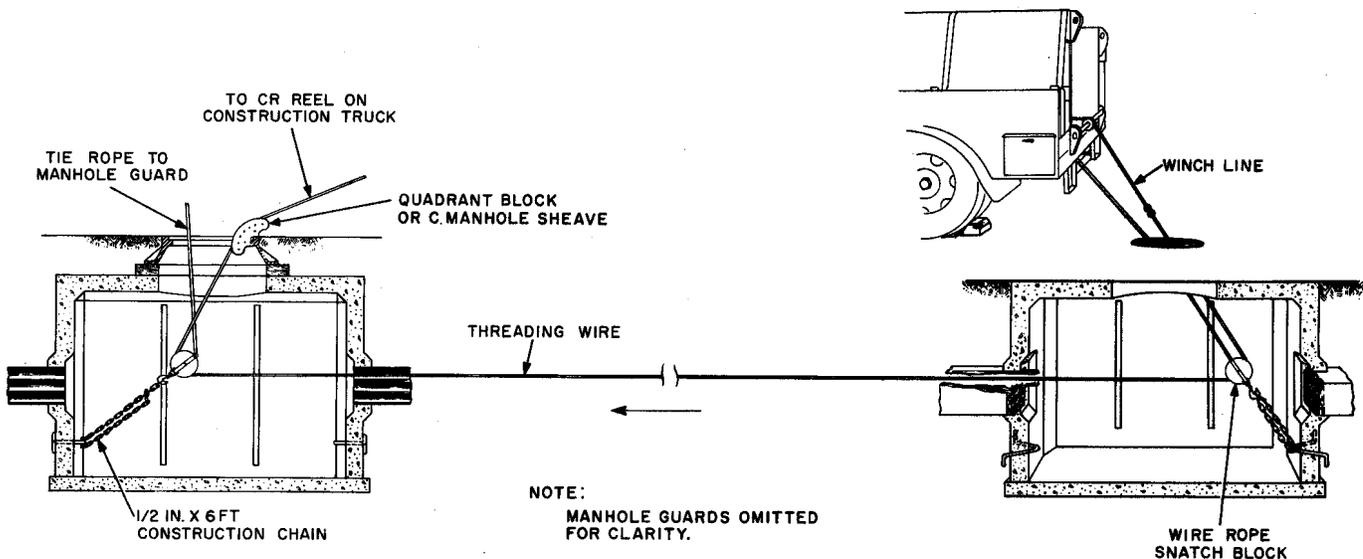

Fig. 5—Placing Winchline in Duct
5.03 If the duct has been threaded with wire, attached the threading wire to the pulling line of a winch truck located at one end of the section. At the other end of the section, attach the threading wire to a CR reel mounted on a second truck. Pull the first few feet slowly to determine if any obstructions are in the conduit. After this, make a normal steady pull until the winch line has completely replaced the threading wire in the duct. Disconnect the winch line from the threading wire. A typical setup is illustrated in Fig. 5.